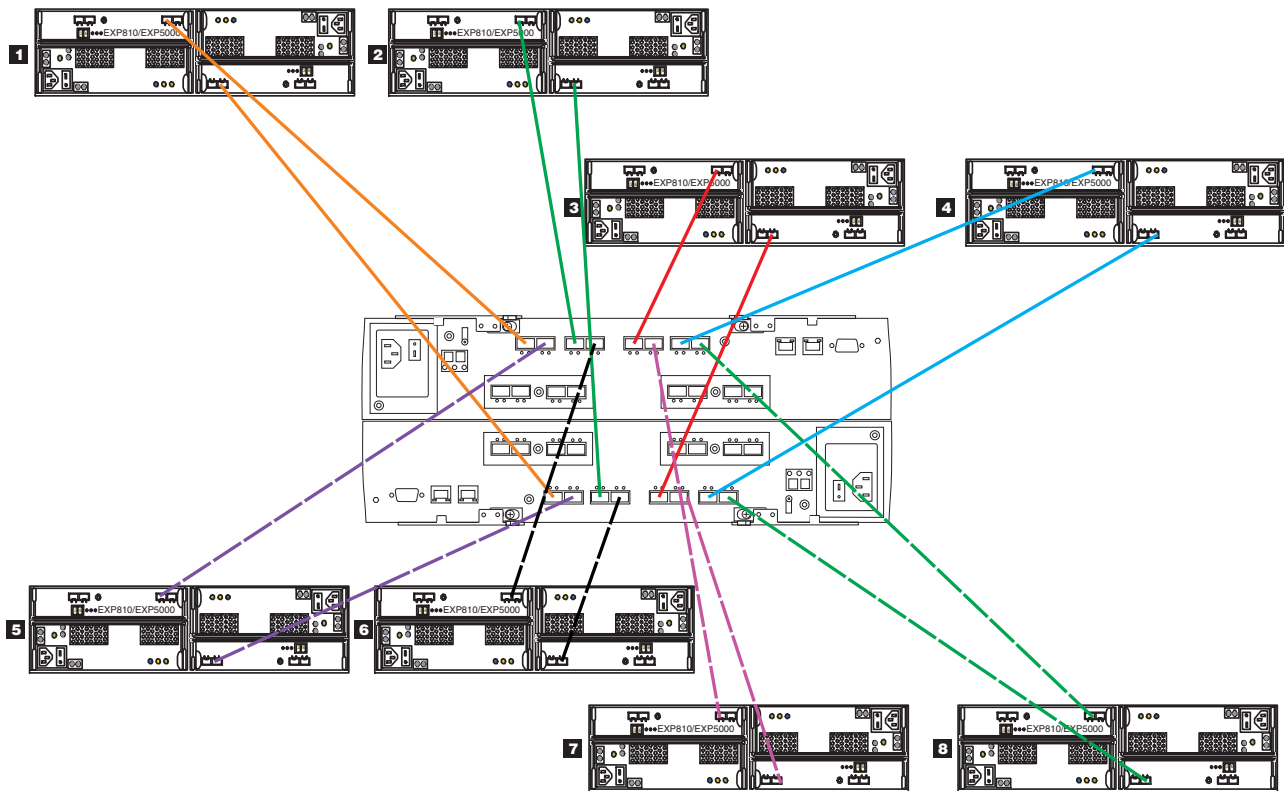

Figure 11. Use all drive channel ports when connecting storage enclosures
- When you connect the storage enclosures to drive mini hubs, do not use all ports in each of the drive mini hubs in the DS4400 or DS4500 storage subsystem. Connect the Fibre Channel cable to only one port of the drive mini hub and leave the other port unoccupied. However, when you connect the storage enclosures to drive channel ports (such as on the DS4200, DS4700, DS4800, DS5020, DS5100, and DS5300 storage subsystem), use all ports in each of the drive channels. Figure 11 illustrates connecting eight storage enclosures to the DS5000 storage subsystem. The eight enclosures are connected to use all of the drive channel ports in the DS5000 storage subsystem instead of stacking the storage enclosures behind a subset of drive channel ports.